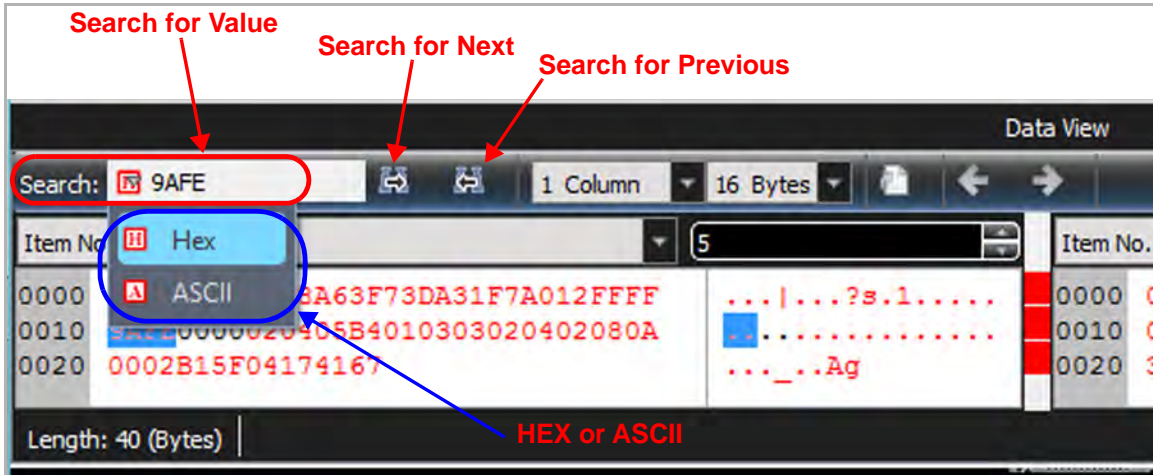

Figure 5.22: Data View Toolbar – Search → HEX or ASCII
- ❑ Search (Entry window: HEX or ASCII), Search Next, Search Previous (Figure 5.22)